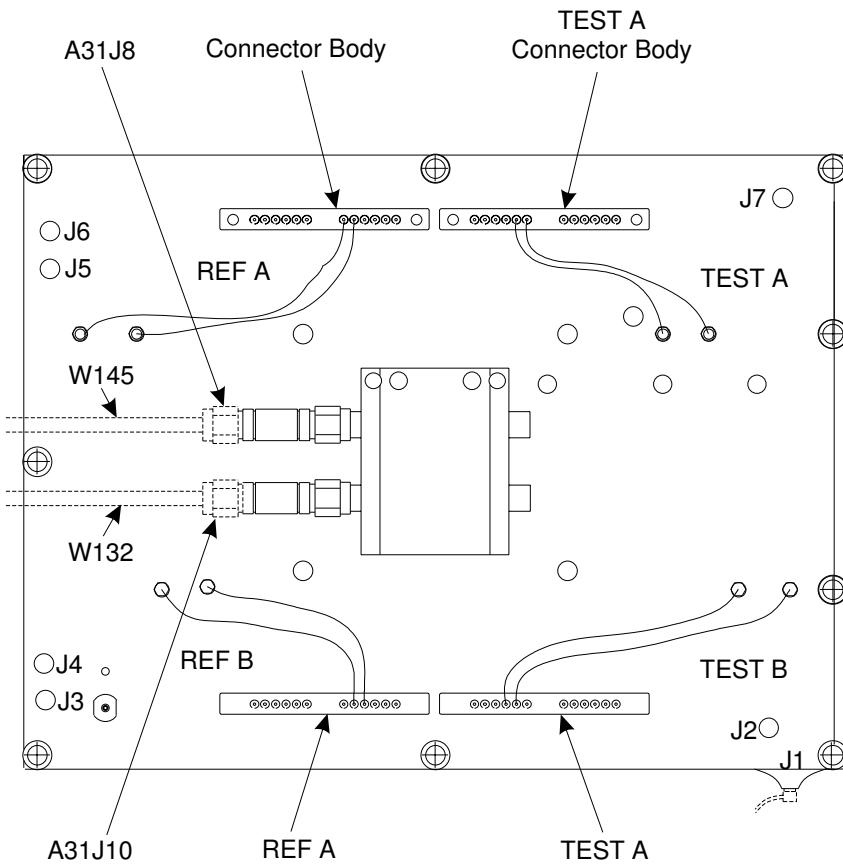

Figure 8-14. A31 Buffer Amplifier / Sampler Assembly, Details
- Step 1. Disconnect the semi-rigid coaxial lines, W83 and W84, from the 20 dB pads that are part of the Buffer Amplifier/Sampler assembly; see Figure 8-14. (For units with Option 11, the semi-rigid coaxial lines are W46 and W47.)
- Step 3. Disconnect the two cable connectors from the TEST A connector body on the Buffer Amplifier/Sampler assembly (see Figure 8-14). Similarly, disconnect the two cable connectors from the REF A connector body.